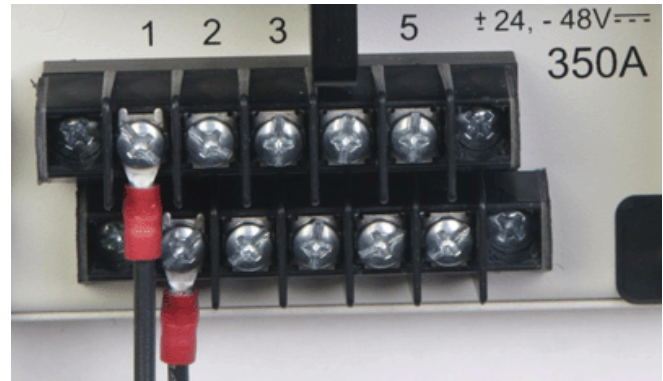

Figure 8 - GMT Output Lug Connections
31. If required, lightly coat anti-oxidant on the lug/wire and output **BATT** and **RETURN** terminals, and then connect to terminals, as shown in Figure 8. (NEC specifies only one load at each output terminal.)